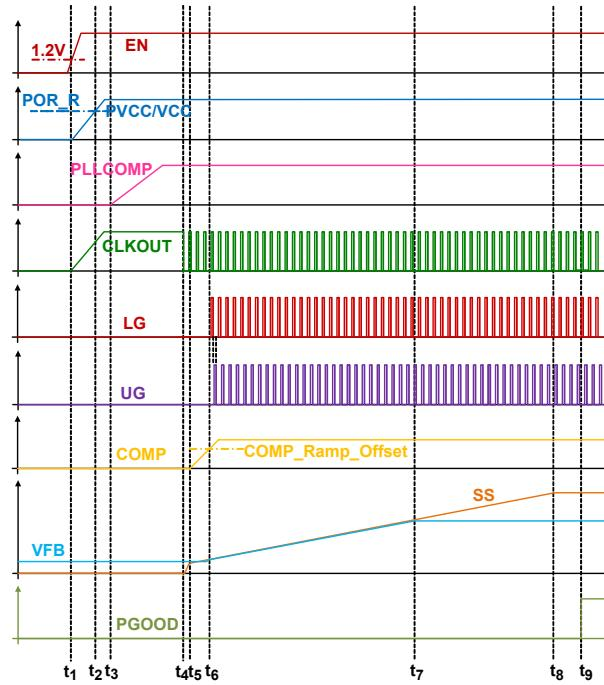

FIGURE 67. CIRCUIT INITIALIZATION AND SOFT-START
- There is no limit for the minimum voltage on the  $\text{TRACK}$  pin, but note the lower reference voltage and the lower voltage feedback regulation accuracy. Note the  $\text{SS\_DONE}$  signal is checking  $\text{V}_{\text{REF\_TRK}} \geq 0.3\text{V}$  as one of the conditions (refer to the  $t_{\text{g}}-t_{\text{g}}$  description on page 31 and Figure 67 on page 30). Also, for the boost converter, the regulated output minimum voltage is usually the input voltage minus the upper MOSFET's body diode drop, in which case, the corresponding voltage at  $\text{FB}$  voltage is the minimum effective voltage for the  $\text{V}_{\text{REF\_TRK}}$  and  $\text{V}_{\text{REF\_DAC}}$ .
Before converter initialization, the EN pin voltage must be higher than its rising threshold and the PVCC/VCC pin must be higher than the rising POR threshold. When these conditions are met, the controller begins initialization and soft-start. Figure 67 shows the ISL78229 internal start-up timing diagram from the power-up to soft-start.
Assuming input voltage is applied to the VIN pin before  $t_1$  and VCC is connected to PVCC, as shown on Figure 67, the start-up procedure is described as follows:
Diode emulation occurs during t5-t8 (on Figure 67 on page 30), regardless of the DE/PHDRP operating modes (Table 2).